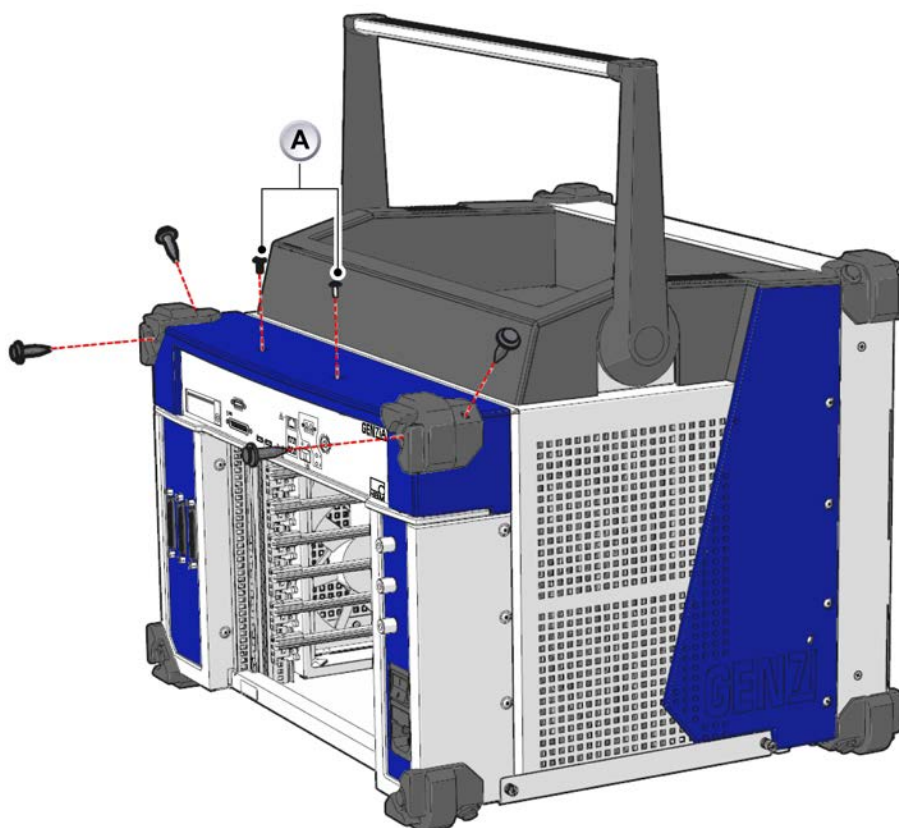

Figure 7.23: Remove bumpers
- 3 Remove the plugs from the rubber back bumpers. Then remove the rubber bumpers. Also remove the two indicated screws (see Figure 7.23).